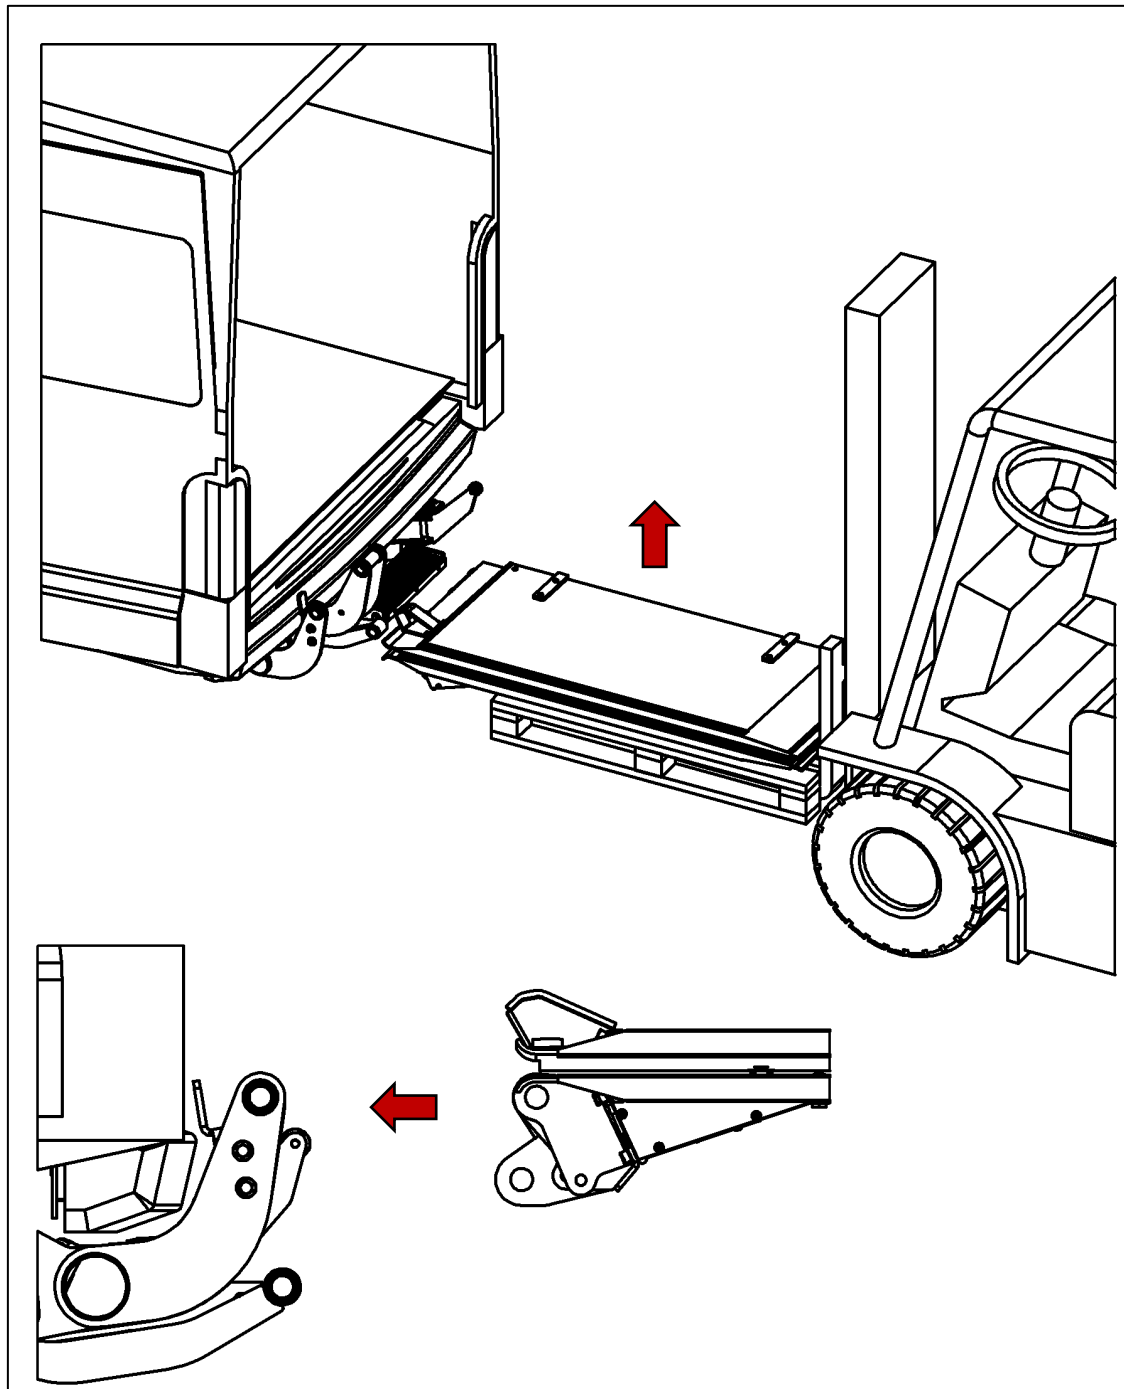

Fig. 49
- Lift the platform using suitable means, e.g. crane, assembly table, or pallet truck and pallet (see Fig. 49).